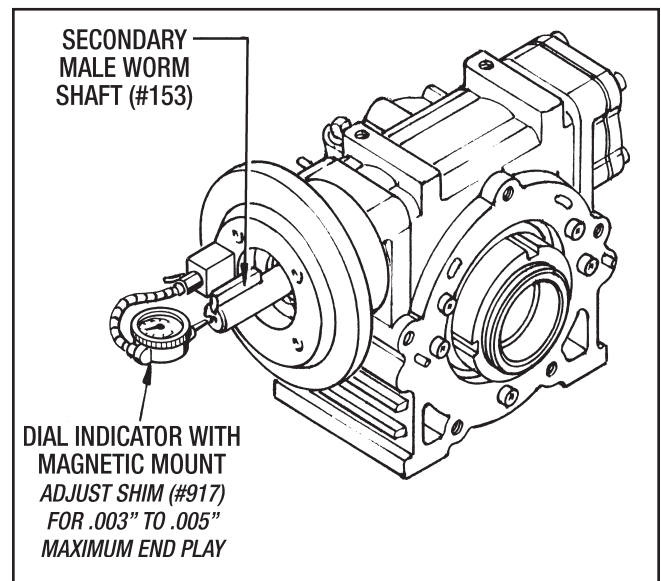

Figure 9.4 - Checking the Worm Shaft End Play
1. Install a Dial Indicator with a magnetic mount to the drive side of the Secondary Input Housing Sub-Assembly, as shown in Figure 9.4. Manually push the worm shaft in and out while rotating it. Add or subtract Shims (#917) on the drive side to get correct end play of .003" to .005".